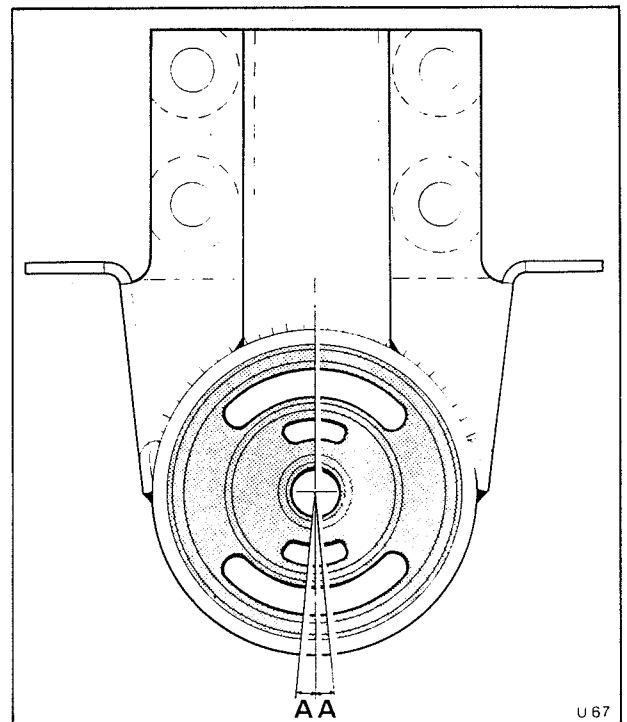
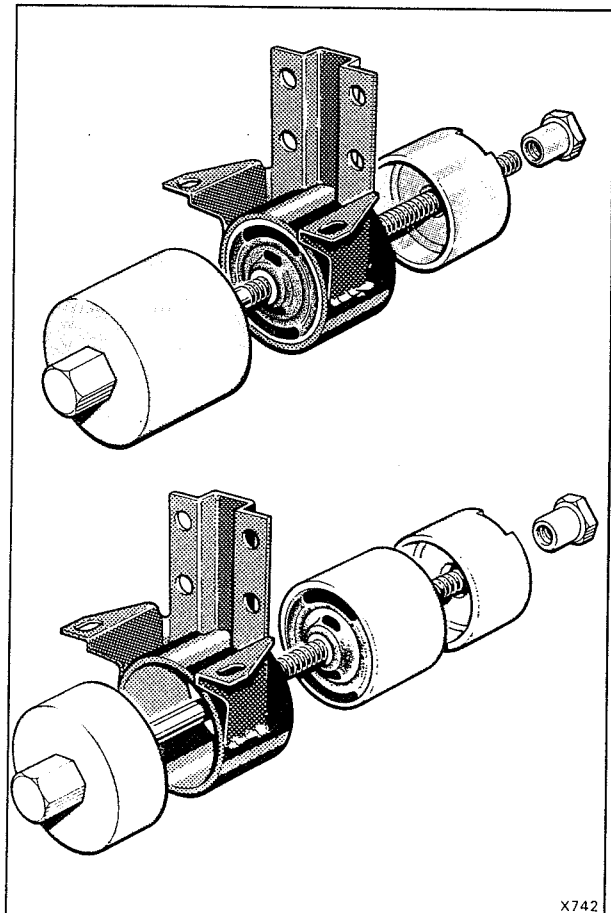

Fig. H6m Final drive mount alignment
Fig. H9m Mount extraction and insertion tool
11. Position the extraction components of tool (RH9291) onto the mount (see Fig. H9m). Tighten the draw bar until the mount is withdrawn from the crossmember. Remove the old mount and the extraction cup from the tool.
11. Remove the mount from its housing using the extraction components of tool (RH9291) as shown in figure H9m.
13. Fit a new mount into the housing using the insertion components of tool (RH9291) as shown in figure H9m. Ensure that the slots in the mount are positioned as shown in figure H6m.